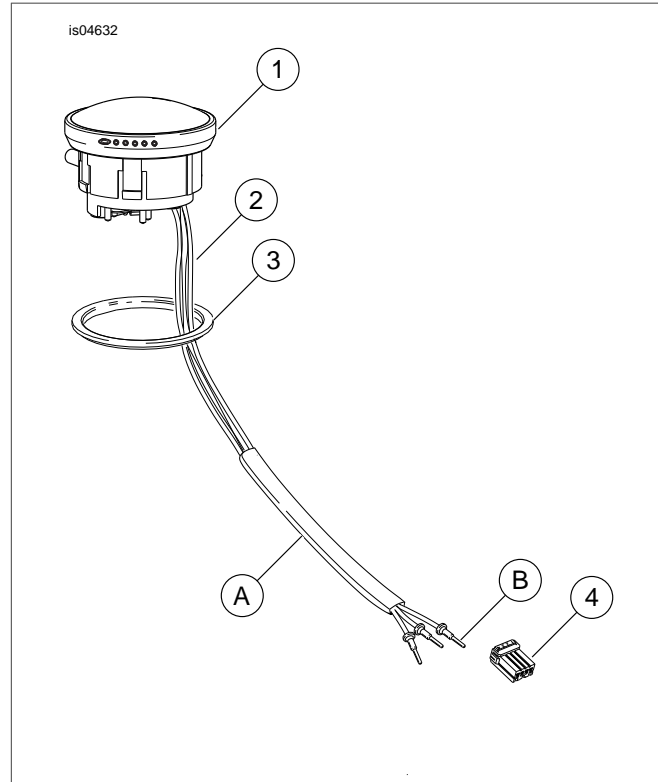

Figure 2. Service Parts: LED Fuel Gauge Kit
See Figure 2 and Table 1.
2. See Figure 2. Depress the pin on the socket terminal side of the connector, and pull apart the pin and socket halves.
4. **For Carbureted Models:** See Figure 2. Remove the fuel gauge by firmly grasping and carefully pulling up (do NOT twist) on the gauge just far enough to free it from the fuel tank. Disconnect the two sending unit connectors. Feed the conduit and two wires up through the tube while removing the gauge. Remove and discard the fuel gauge.
**For Fuel-Injected Models:** See Figure 2. Remove the fuel gauge by firmly grasping and carefully pulling up (do NOT twist) on the gauge to free it from the fuel tank. Feed the conduit and three wires up through the tube while removing the gauge. Remove and discard the fuel gauge.
1. See Figure 2. Assemble the new gasket (3) to the LED fuel gauge (1) from the kit. Install the gasket so the flat side contacts the edge of the gauge.
3. See Figure 2. While carefully lowering the fuel gauge, feed the wire harness (2) down into the drain tube until the three short (Orange, Black, Yellow/White) wires exit the hole at the bottom of the fuel tank. Gently pull the wires to remove slack while installing the gauge to the fuel tank. Do not twist the gauge during installation. Hold the gauge firmly and press down until it snaps into place.
4. Install the three wires with pin terminals (B) into the correct cavities of the 4-place pin housing (4) from the kit. See below and Appendix B of an appropriate Service Manual.